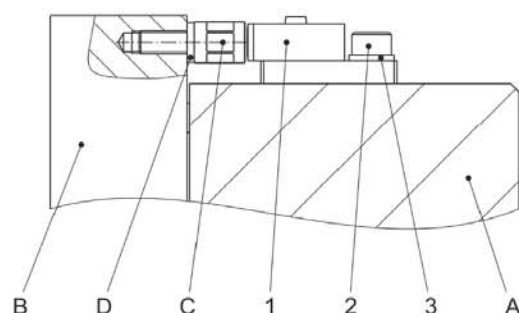

Fig. 3 (Design with switching bolt)
When replacing a proximity switch in the design with a switching bolt (Item C) / see Fig. 3), the switching bolt (C) must not be replaced/screwed out.